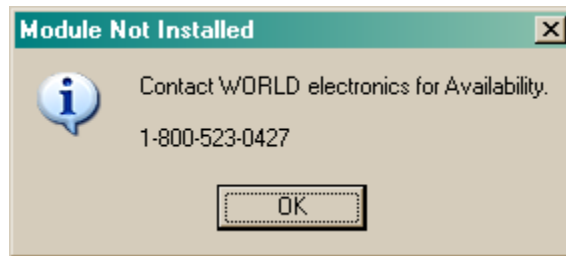

Figure 28
**NOTE:** Only installed FREEDOMWare software will run. If the module selected is not installed a window will appear as in Figure 28 informing the user that the Module is not installed and to contact WORLD electronics. If this window appears and the software was purchased from WORLD electronics, then contact a member of WORLD electronics' technical support staff. If the software was not purchased, it can be purchased by contacting WORLD electronics' Sales Staff. The contact information on both of these departments can be found on Page 2 of this manual.